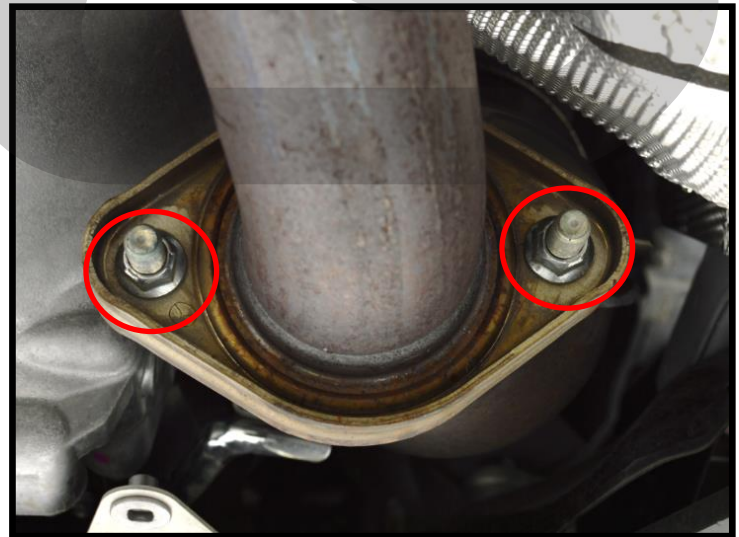

Figure 2d
- c) Remove the two 14mm nuts connecting the mid-section to the exhaust manifold. Shown with red circles in Figure 2d.